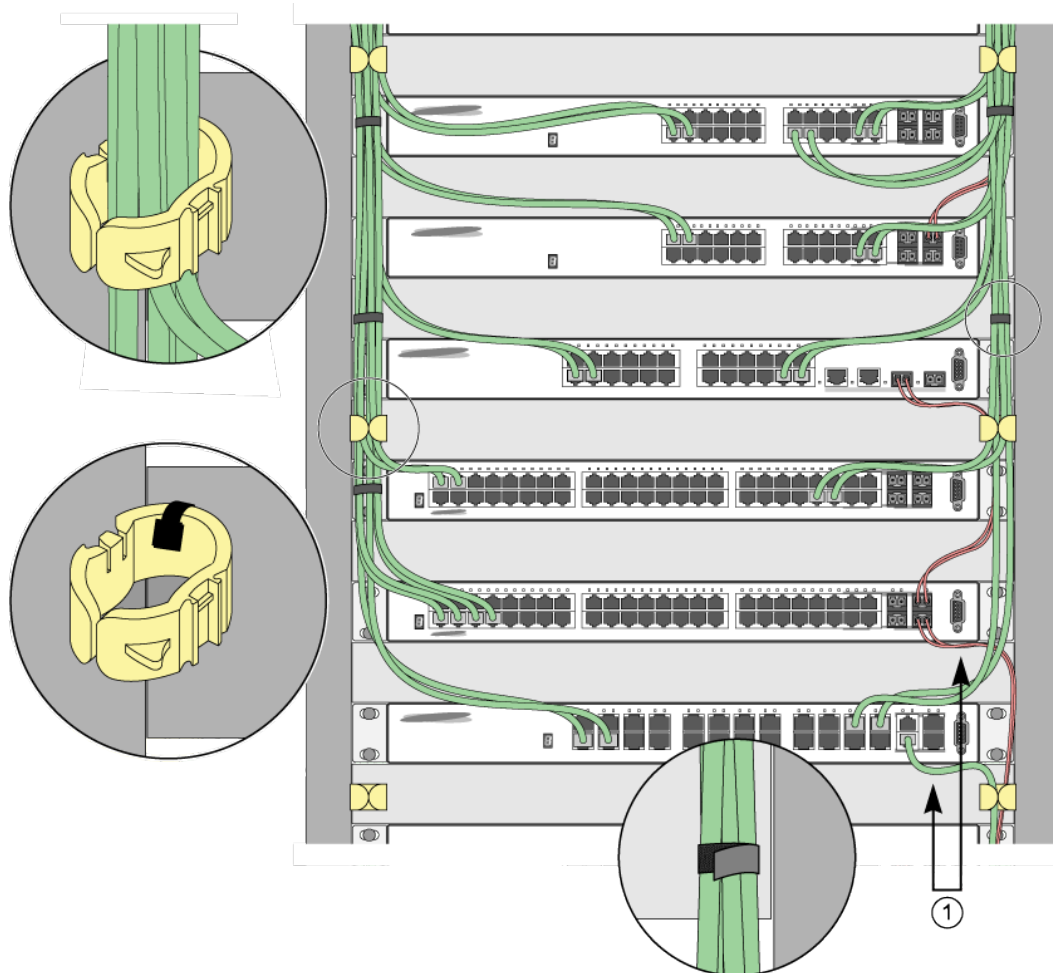

Figure 4: Properly Installed and Bundled Cable
- Provide enough slack, approximately 5 to 7.5 cm (2 to 3 in), to provide proper strain relief as shown in Figure 4 on page 18.
- When installing a patch panel using twisted pair wiring, untwist no more than 2.5 cm (1 in) of the cable to avoid radio frequency (RF) interference.